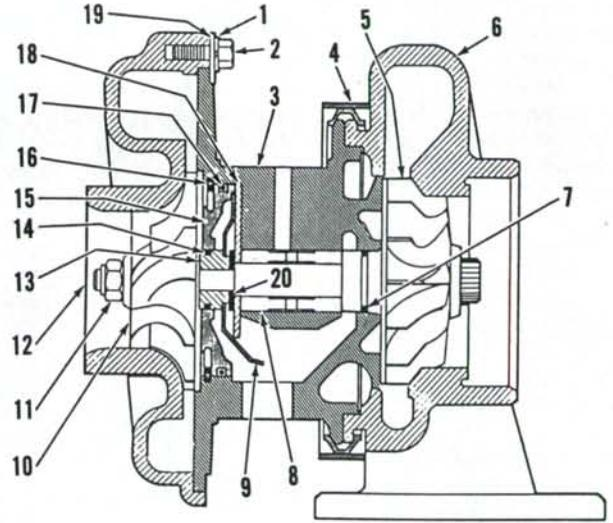

Fig. 103—Sectional view of Schwitzer turbocharger showing component parts and their relative positions.
**129. OVERHAUL SCHWITZER TURBOCHARGER.** Remove turbocharger as outlined in paragraph 126. Mark compressor cover, bearing housing and turbine housing for reassembly. Clamp turbocharger mounting flange (exhaust inlet) in vise and remove cap screws (2—Fig. 103), lockwashers (1) and clamp plates (19). Remove compressor cover (12). Remove nut from clamp ring (4), expand clamp ring and remove bearing housing assembly from turbine housing (6).
Remove locknut (11—Fig. 103) and slip compressor wheel (10) from end of shaft. Withdraw turbine wheel and